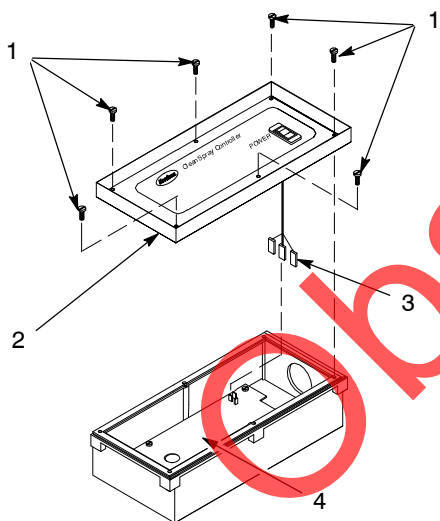

Figure 3 Cover Removal
1. See Figure 3. Remove the screws (1) securing the cover (2).
2. Disconnect the power switch terminals (3) from the circuit board (4).